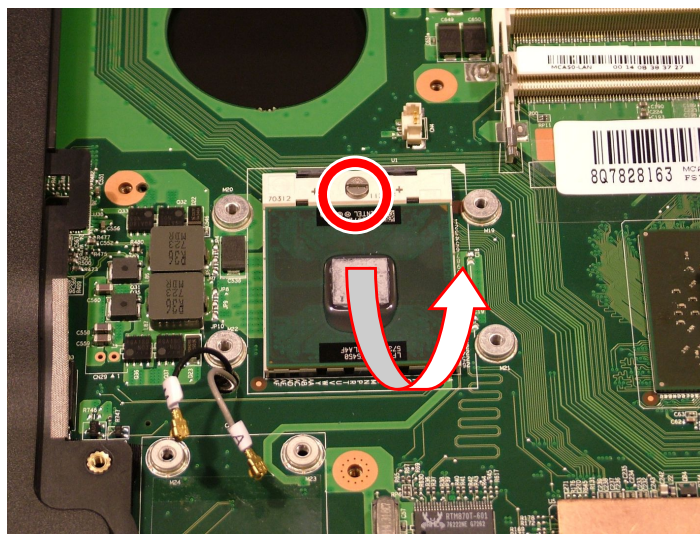

Fig. 10 Removing CPU.
8. Take out the CPU (see Fig. 10).